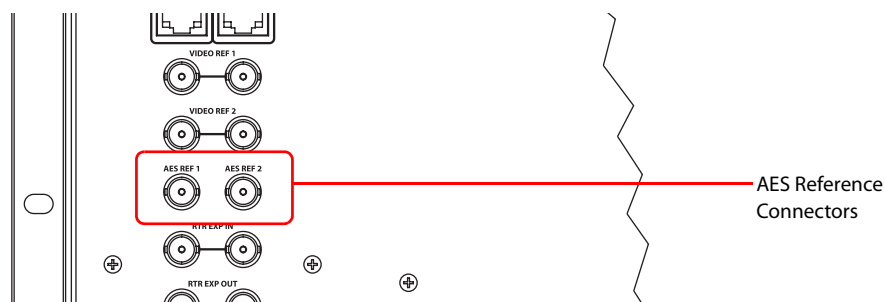

Figure 2-19. AES Reference Connection (Rear View)
- 1 Locate the AES reference connections on the rear of the router, as shown in Figure 2-19. AES reference connections are labeled 'AES REF 1' and 'AES REF 2'.